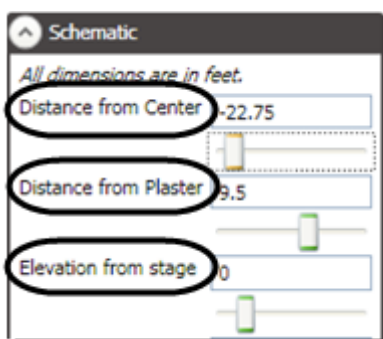

Figure 186
4. Now, move the winch into position so that it matches your stage. Use the **Distance from Center**, **Distance from Plaster** and **Elevation from stage** field sliders (Figure 186) to get the position close. You can then fine tune the position by typing in accurate dimensions from your ground plan.